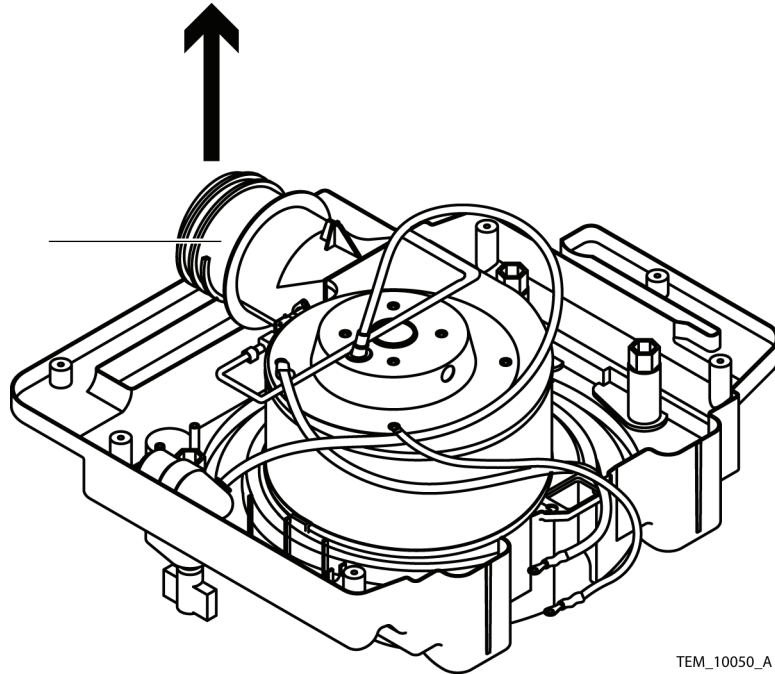

Figure 57. Duct Adapter Removal
5. Lift the duct adapter assembly out of the rear cover assembly. See Figure 57, item 1.